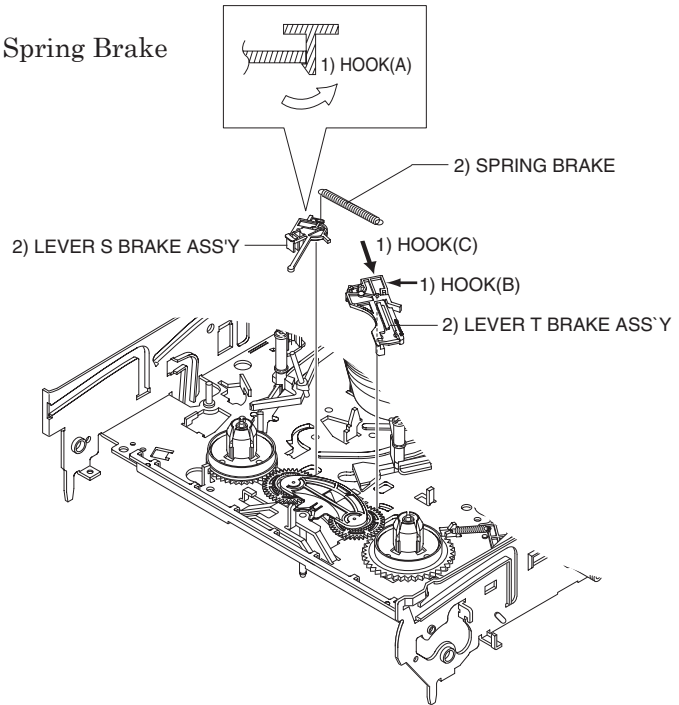

Fig. 4-4-15 Lever Brake S, T Ass'y Removal
- 1) Remove the Lever Brake S Ass'y (Refer to Fig 4-4-15).